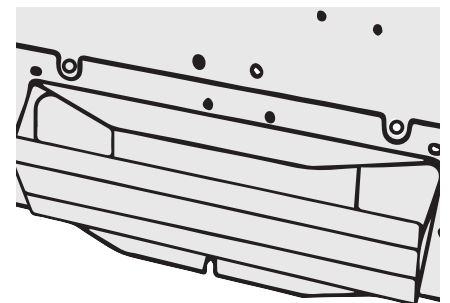

Figure 2
- If you require rectangular top (vertical) venting simply install the rectangular damper provided (see Figure 2). Connect duct work to damper.